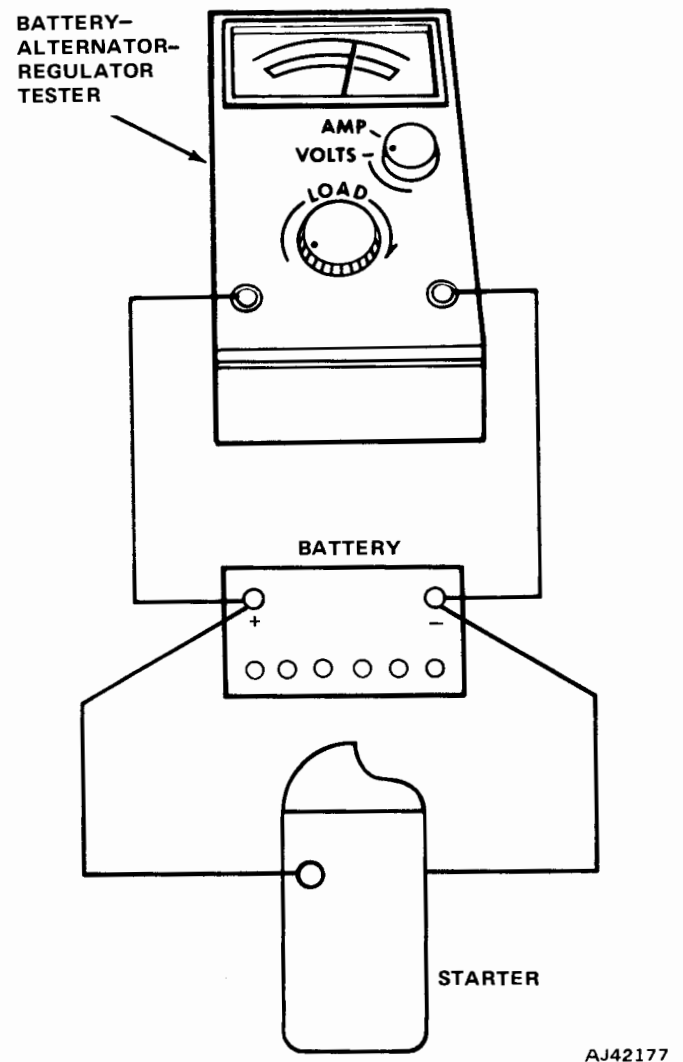

Fig. 3-40 Starter Motor No-Load Test
(1) Operate starter with test equipment connected as shown in figure 3-40. Note voltage reading.
(2) Determine exact starter rpm using a mechanical tachometer (not shown).